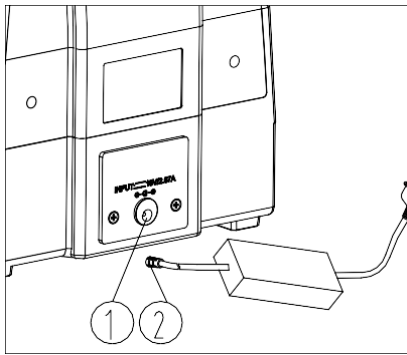

Fig.8
2. Insert the connector① of power cord into the power socket②, and make sure it connects well (see Fig. 8).